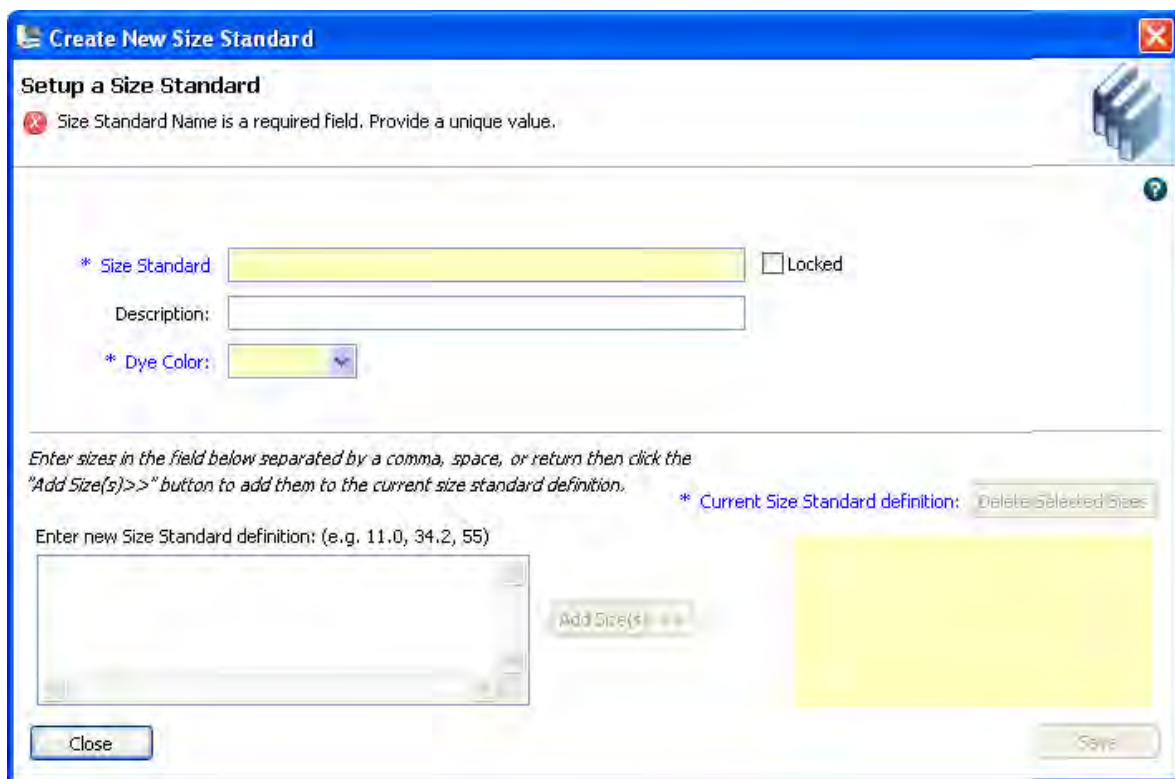

Figure 31 Create New Size Standard
3. In the Create New Size Standard dialog box (Figure 31), enter a size standard name.